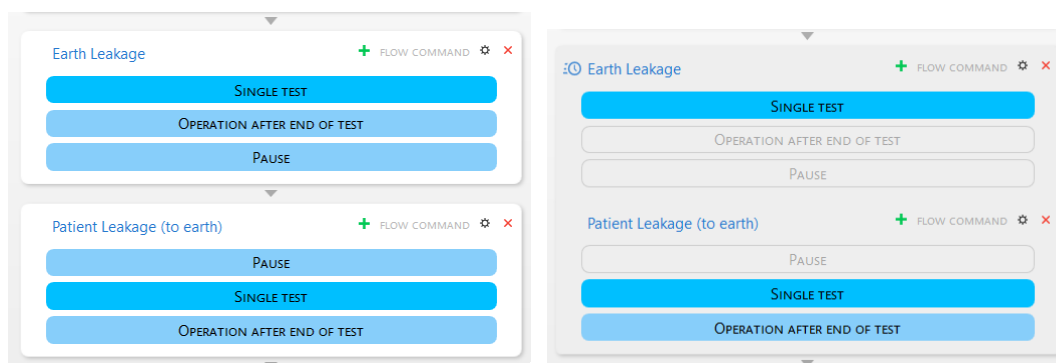

Figure 10.6: Example of non-optimized (left) and optimized (right) test steps
- A group of single test steps that are subjected to optimization is indicated with grey background and marked with the  symbol, see **Figure 10.6**.